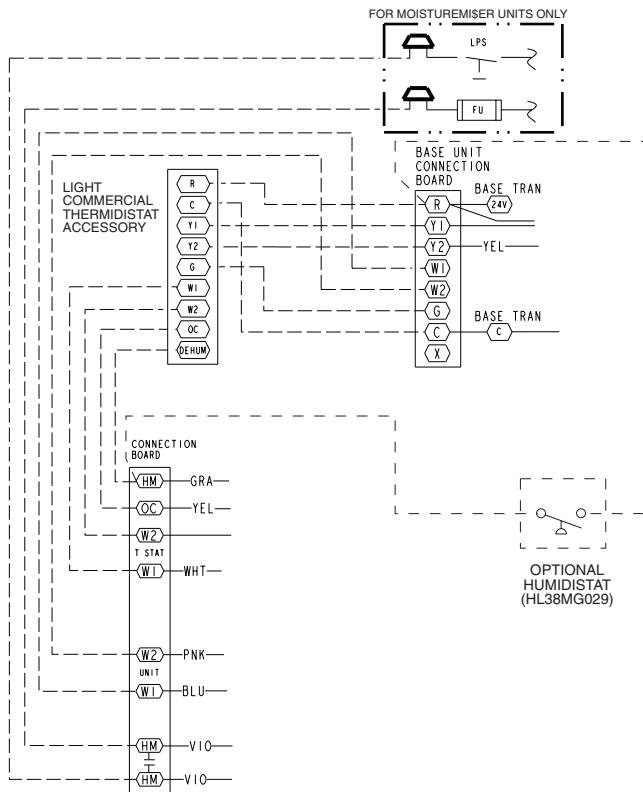

Fig. 14 — Light Commercial Thermidistat Accessory Low-Voltage Connections
Power — Note that this control does not require batteries and is not “power stealing.” It does require 24 vac (R and C terminals) from the RTU’s low-voltage transformer to be connected to it for proper operation. The control will not operate without these 2 connections. See Fig. 14.
7. Match and connect equipment wires to proper terminals of each connector block. Remember R and C must be connected for proper operation (see Fig. 14).